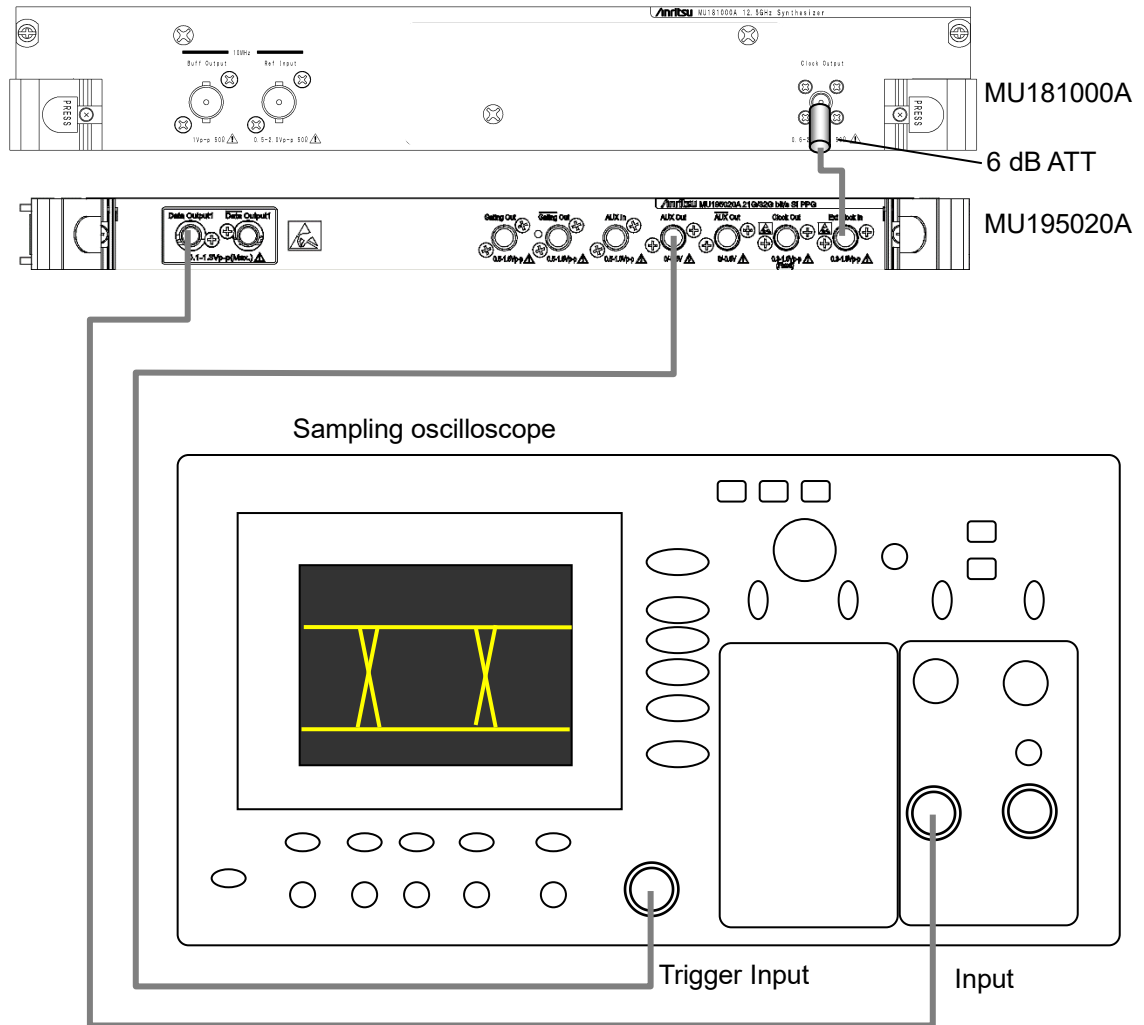

Figure 8.3.2-1 Connection Diagram for Waveform Test
6. Connect the measuring instrument cables as shown in Figure 8.3.2-1.
8. After warming up the instruments, enable the MP1900A signal output (ON) and output signals.